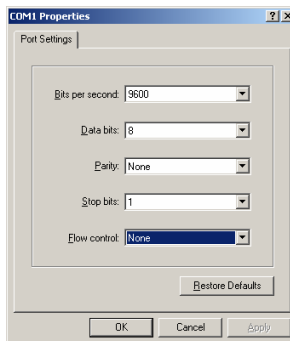

Figure 8 COM 1 Properties box
8. Fill in the connection details. In the Connect using box select the COM port the Serial cable is connected to and click OK. The COM properties box appears. See Figure 8.